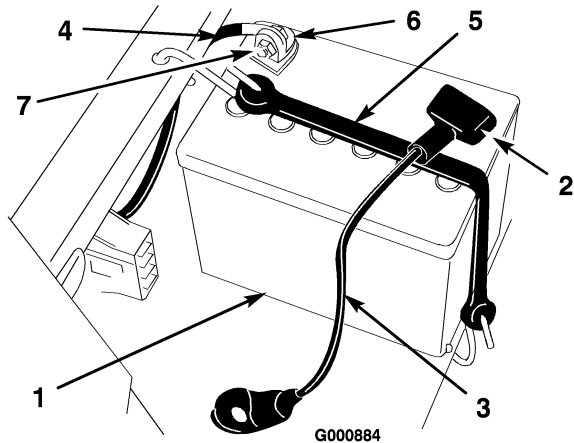

Figure 31
4. Disconnect the negative (black) ground cable from the battery post (Figure 31).
- Slide the rubber cover up the positive (red) cable. Disconnect the positive (red) cable from the battery post (Figure 31).
- Remove the battery hold-down (Figure 31) and lift the battery from the battery tray.
- Position the battery in the tray with the terminal posts away from the control panel (Figure 31).
- Secure the cables with 2 bolts (1/4 x 3/4 inch), washers (1/4 inch), and nuts (1/4 inch) (Figure 31).
- Secure the battery with the hold-down (Figure 31).